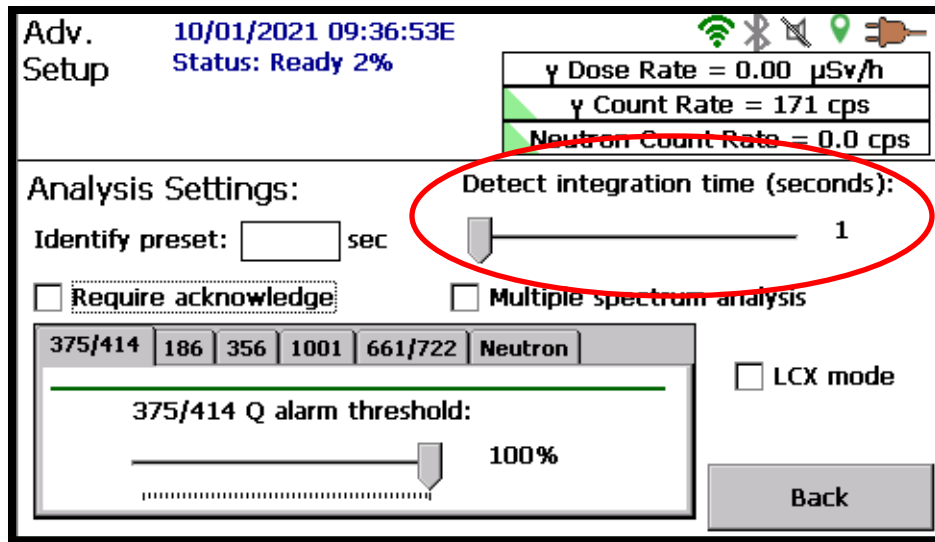

Figure 57. Detect Mode Integration Time
- From the Advanced Setup screen, tap **Analysis** to open the page shown in Figure 57.